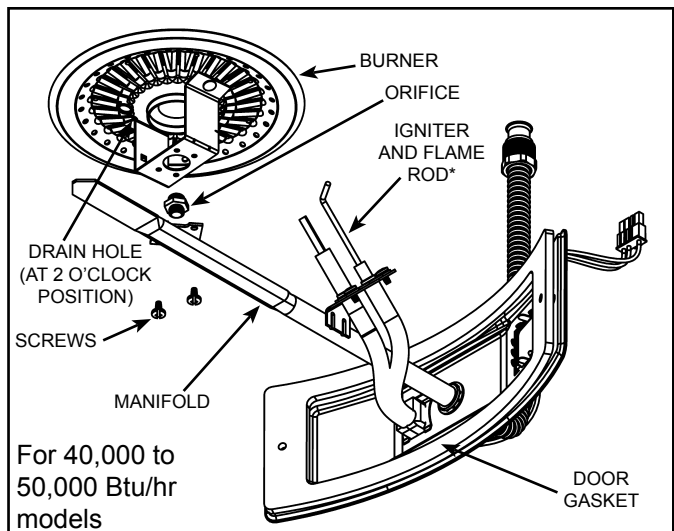

Figure 18
1. Burner may be hot. Wait until burner has cooled off. After noting the position of the condensation drain hole on the top of the burner, turn the inner door/manifold/burner assembly upsidedown. Using a Phillips head screwdriver, remove and retain the 2 screws attaching the burner to the manifold pipe (see Figure 18 & 19).
Care **MUST** be taken to ensure the burner is installed correctly on the inner door/manifold assembly. Position the new burner upside down with the orientation of the burner's condensation drain as shown in illustration (see Figure 18 & 19).
2. Using a ratchet with 1/2" socket, remove the burner's old orifice (**Note:** the burner orifices have different threads dependent upon the gas type. Orifices for natural gas have right-hand threads, orifices for L.P. have left-hand threads (see Figures 18 & 19).
1. Using a ratchet with 1/2" socket, install the new burner orifice (**Note:** the burner orifices have different threads dependent upon the gas type. right-handed threads for natural gas (turn clockwise to install) and left-handed threads for propane gas (turn counter-clockwise to install) (see Figures 18 & 19). **Note:** Determine whether the orifice is tall or short and DO NOT replace them with each other.
3. Align the screw holes on the inner door/manifold assembly. Using the two screws removed in step 1 above, installed the new burner to the inner door/manifold assembly (rotate the assembly to visually check the top portion of the burner assembly and confirm the orientation of the condensation drain hole as shown in the illustration) (see Figure 18 & 19).